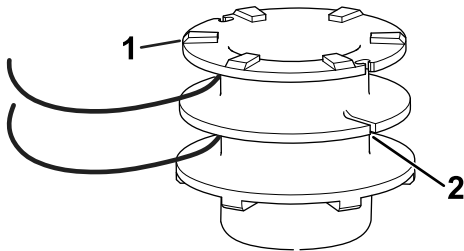

Figure 17
4. Insert the string into the anchor slot in the upper part of the spool (Figure 17). Wind the string onto the spool in the direction shown by the arrows on the spool.